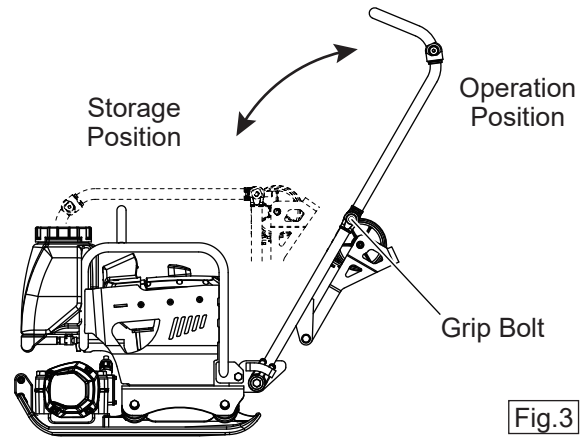

Fig.3
1. Check the VAS folding handle to fix at storage or operation position. When fixing the handle position, tighten the grip bolts certainly. (Fig.3)